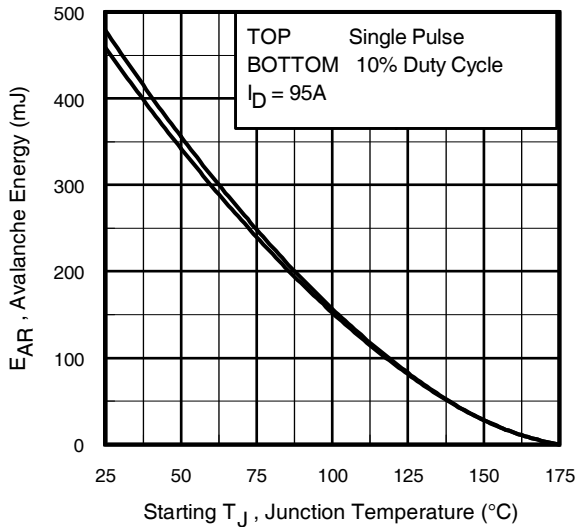

Fig 15. Maximum Avalanche Energy Vs. Temperature
Notes on Repetitive Avalanche Curves , Figures 15, 16:
7. ΔT = Allowable rise in junction temperature, not to exceed T_{jmax} (assumed as 25°C in Figure 15, 16).